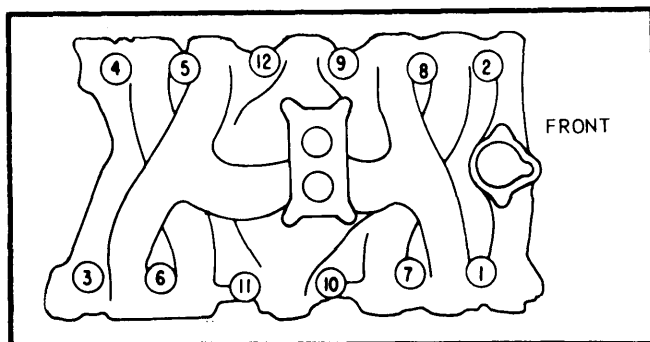

Fig. 1 Intake Manifold Tightening Sequence
**Installation** – Clean all gasket surfaces. Coat both sides of new intake manifold gasket with sealer and install gasket on head. Install end seals, being sure that end of seals are positioned under edges of heads. Install manifold and bolts. Tighten bolts in two steps in sequence shown in Fig. 1.